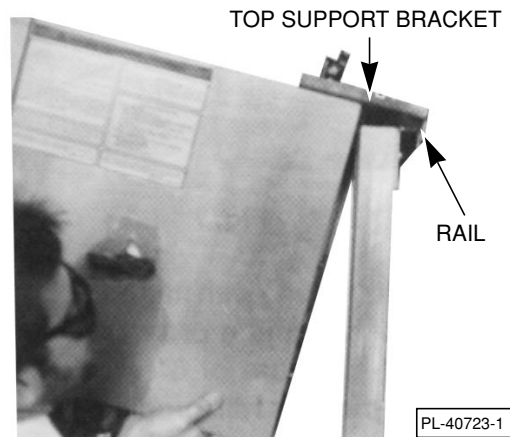

Fig. 6
4. Carefully lift the broiler so brackets fit over the rail (beam support) on top of the backsplash and so the bottom of the broiler is supported by the two bottom support brackets (Fig. 6).